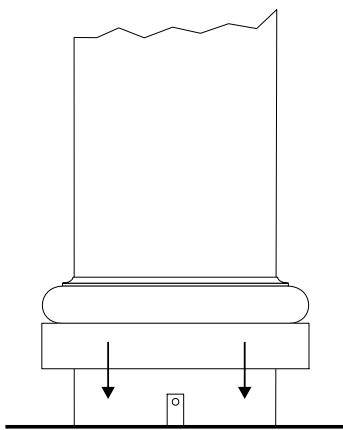

Figure 1
3. Assembly: If installation requires a method of securing column in place before load is applied, metal "L" brackets (suggested size 1 1/2" x 1 1/2") may be used as long as they do not interfere with the seating of the cap and the base/plinth. For this application, it may be necessary to split the capital into halves to allow for attachment of the angle brackets to the beam/soffit. **NOTE:** Always drill clearance holes in column shaft and secure angle brackets with through bolts. - **DO NOT USE SCREWS - DO NOT OVER TIGHTEN.** (See Figures 1 and 2 below.)